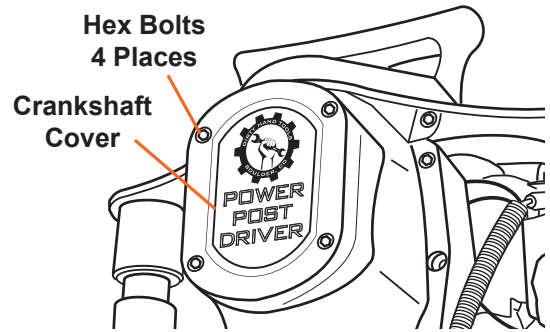

Figure 12
1. Remove four hex bolts and crankshaft cover (see Figure 12).